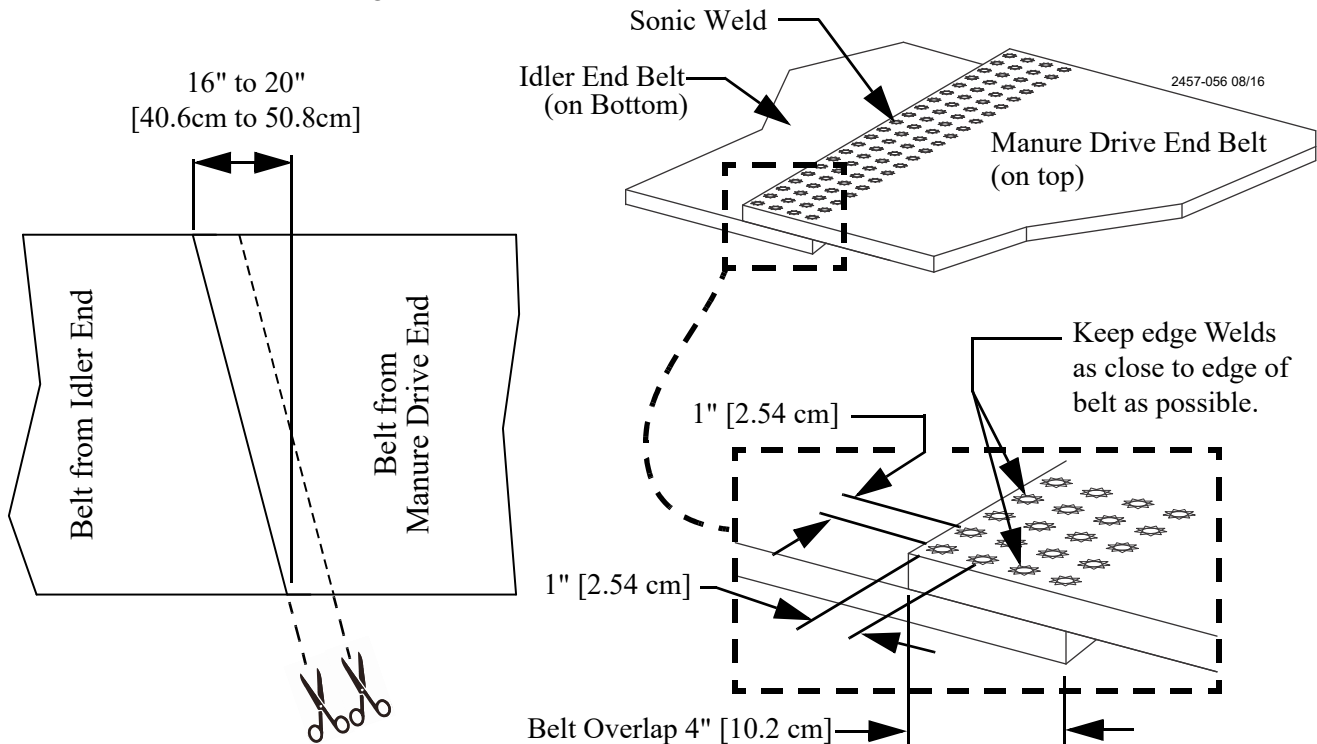

Figure 13. Belt Welding
1. Cut the Belt ends at an angle as shown with a 4" [10 cm] overlap as shown in **Figure 13.**